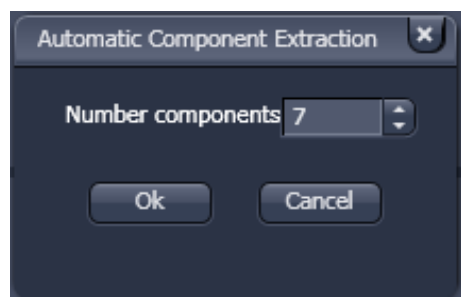

Fig. 264 ACE, number of components selection window
- Select the number of components in the sample and click **Ok** (Fig. 264).